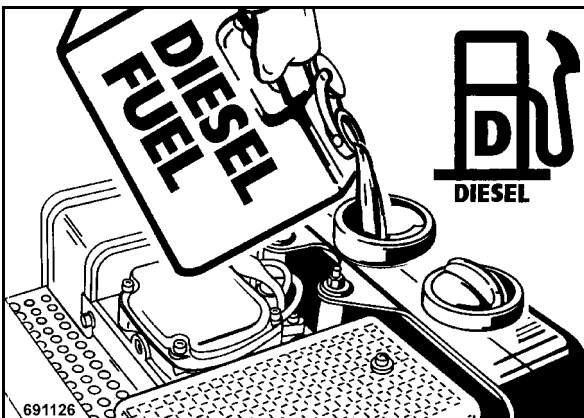

Fig. 46
- If necessary, fill in fuel through a funnel with screen filter (Fig. 46).